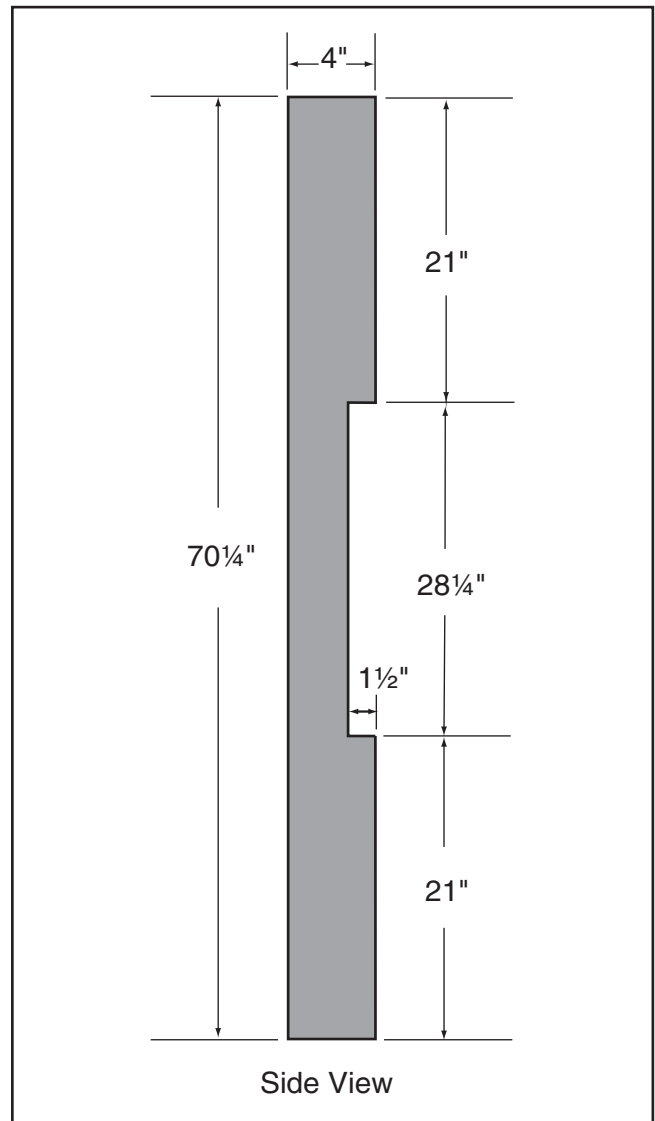

Figure 85. Dimensions of coplanarity gauge.
1. The body of the bandsaw does not allow you to place a regular straightedge across both wheels at the same time. We’ve found a simple way to overcome this situation. All you need is a 70¹/₄" x 2" x 4" board, a jointer and a circular saw. Run the 2" x 4" across a jointer on the side to be placed against the wheels, then cut a 1¹/₂" x 28¹/₄" notch out of the center. Refer to **Figure 85** for more details on how to make this gauge.